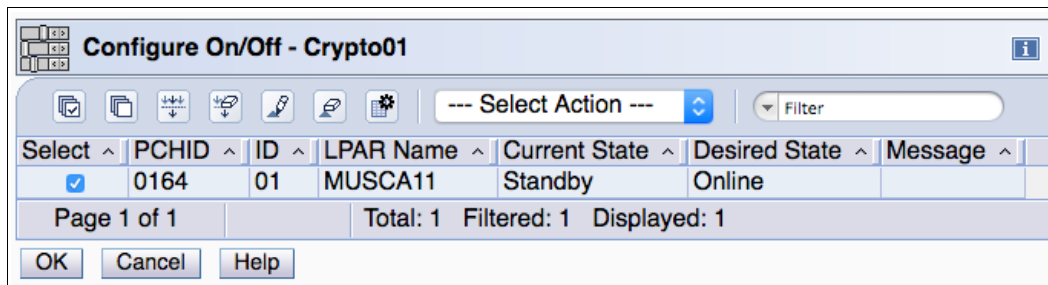

Figure 10-24 Configure On/Off (Standby to Online)
- After confirming that your requested cryptographic coprocessor channel is set to the wanted state of Online, click **OK** (see Figure 10-24).